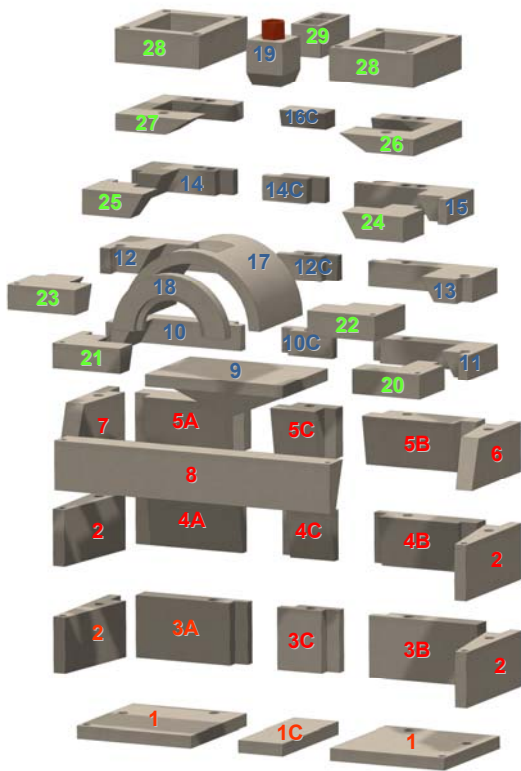

Figure 2. Kit Components
Figure 2 shows the kit component arrangements, with each pallet's contents numbered in a different color.
A larger view of Figure 2 is repeated on page 16 of this document. Component names are listed in Table 1. Specifications and clearance recommendations are shown in Table 2.
- A. Fireplace items shown in Figure 2 and listed in Table 1.